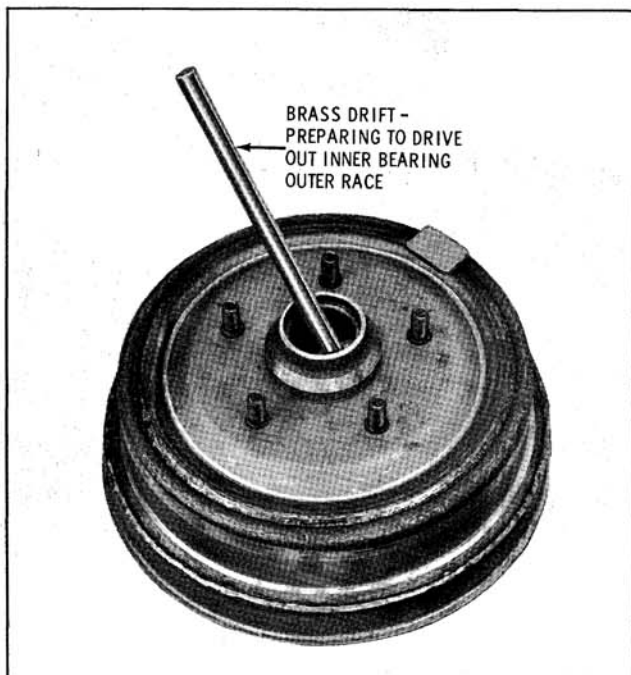

Fig. 9-105 Removing Wheel Bearing Races
3. If necessary to remove outer races, insert a brass drift into hub, indexing end of drift with notches in hub behind bearing outer race and tap with a hammer. Tap alternately on each side of bearing race. (Fig. 9-105)